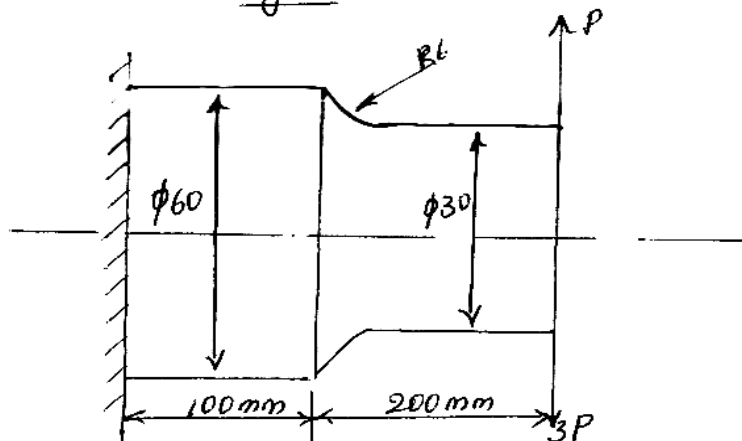

Fig 4b
- b. A SAE 1025 water quenched steel rod ($\sigma_u = 620.8$ MPa, $\sigma_y = 400.1$ MPa and $\sigma_{en} = 345.2$ MPa) of circular circuit shown in Fig.4b is subjected to a load varying from P to $3P$. Determine the value of P . The stress concentration factor may be taken as 1.4. Analyze the member at the change of circuits. Use FOS = 3. 16